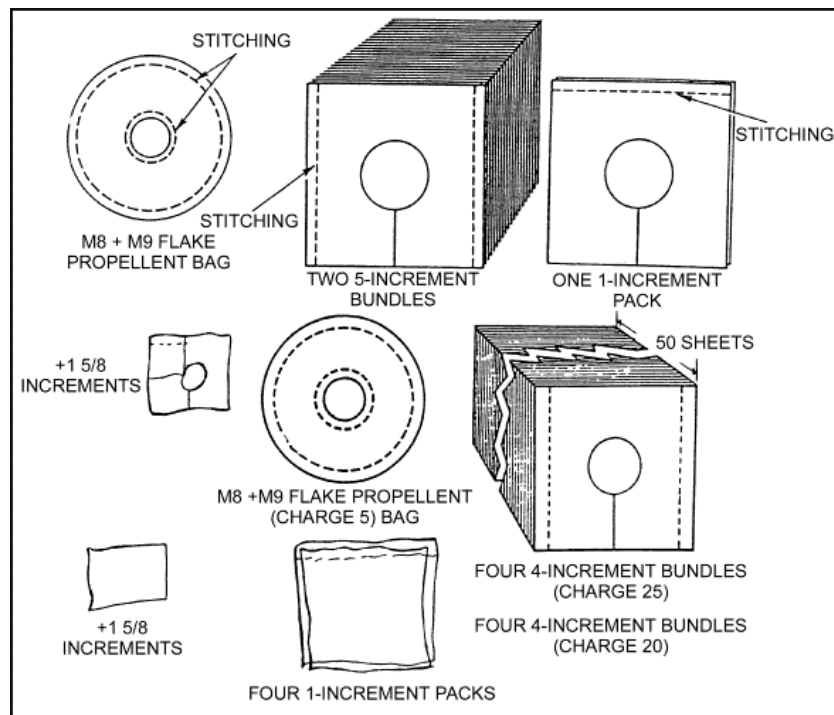

Figure 6-29. Arrangement of propelling charges.
a. Propelling Charges. Propelling charges M6, M36A1, and M36A2 are used with 4.2-inch cartridges (Figure 6-29).